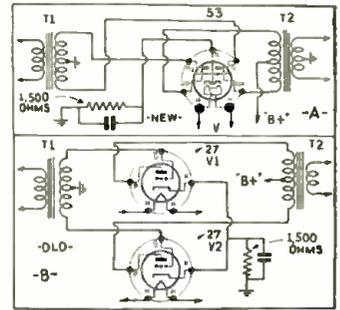

Fig. 6, above. Replacing 27 tubes.
**REPLACING TYPE 27 TUBES.** A single type 53 tube may be used to replace push-pull 27s in many cases with a consequent saving in space and current drain. All the original resistors, and other equipment are used. The original bias resistor of the 27s was found to give fine results. The results obtained from these converted stages are as good if not better than those of the original. Both are shown in Fig. 6.